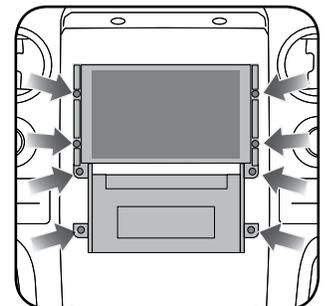

Fig. 1.8
7. Remove (8) 7mm screws securing the screen and radio chassis, then unclip and remove them. Remove the mounting brackets from the screen and radio chassis. (Fig. 1.8)